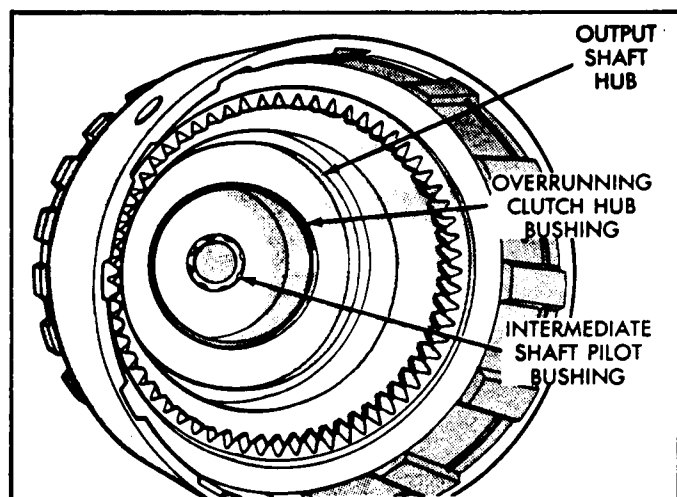

Figure 1
2. Inspect the bushings in the output shaft as shown in Figure 1, and replace as necessary.
3. Lubricate both bushings with a small amount of Trans-Jel (See Figure 1).